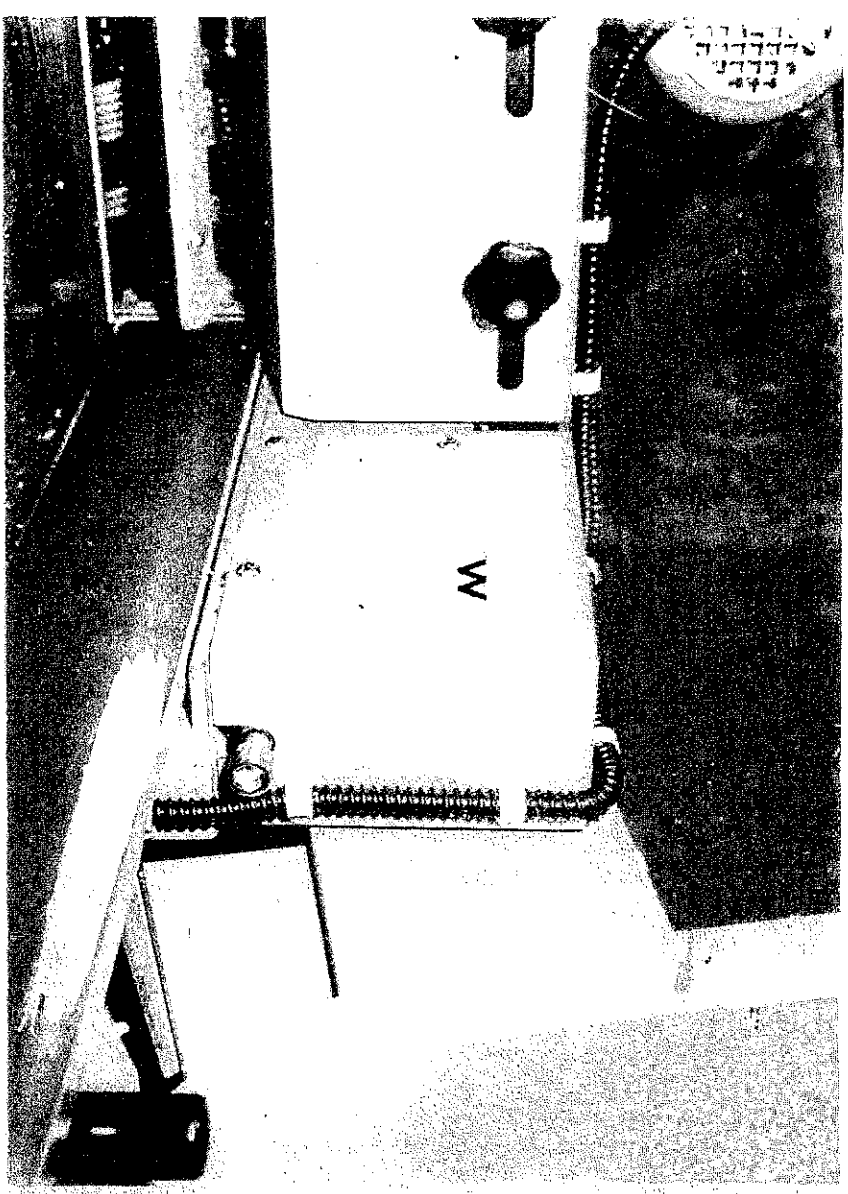

FIG. 31
- c) Remove planer feed unit cable clips from rear cover "W" FIG.31.
- d) Remove planer feed unit cable clips from rear cover "W" FIG.31.